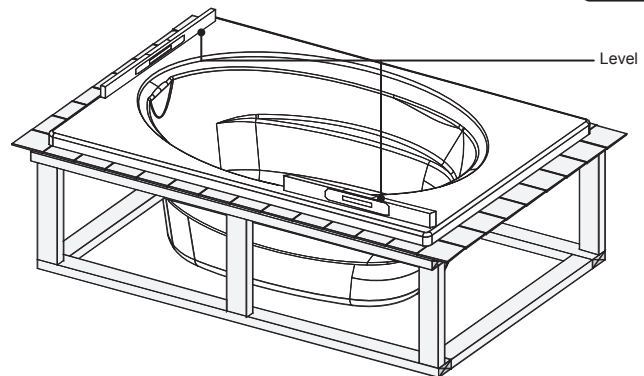

Fig. 6
4. The bathtub must be set level. To check, use a level on top of the ledges on both ends of tub and on top of threshold (Figure 6).